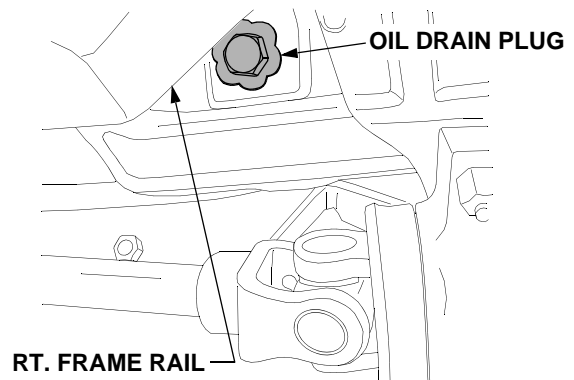

Figure 51
- Locate the engine drain plug on the *bottom/right* side of the engine (See Figure 51). Place a suitable container below the drain plug to collect the old oil.
- Reinstall the drain plug in the engine and clean up any residual oil. Refer to Figure 51.